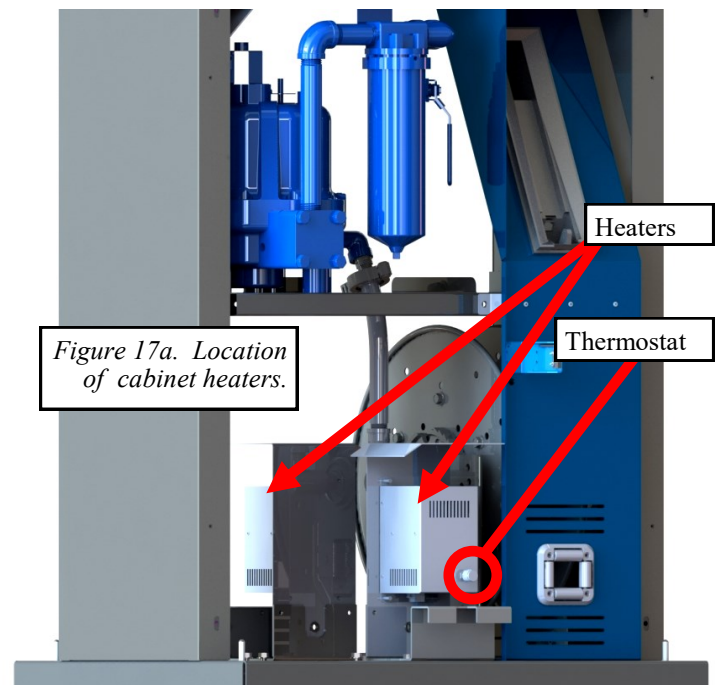

Figure 17a. Location of cabinet heaters.
3. Before cold weather begins, inspect cabinet heaters and circulation fan. (See Figure 17a).
4. Change the DEF filter element annually (item 9, next page).